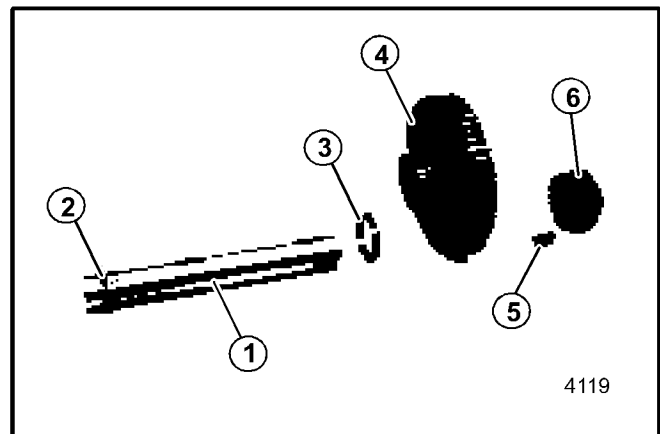

FIGURE 20
6. Remove gears, key and spacer from the input shaft (See FIGURE 20).
9. Reinstall the spacer on the shaft next to the snap ring, then the large double gear with the smaller end next to the spacer, followed by the key and small gear with the flat end of the small gear facing the large gear (Refer to the order shown in FIGURE 20).